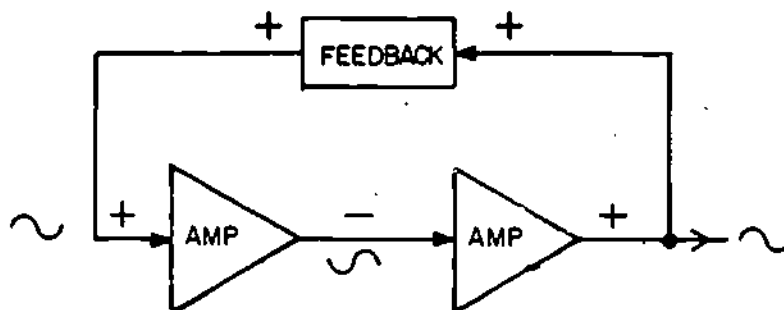

Figure 2
- ② The Wien-bridge oscillator provides a sinusoidal output with excellent frequency stability and a constant output amplitude. This oscillator is used most frequently with test and laboratory equipment. To accomplish the necessary 360° phase shift, the oscillator uses two amplifiers. This is illustrated pictorially in Figure 2.